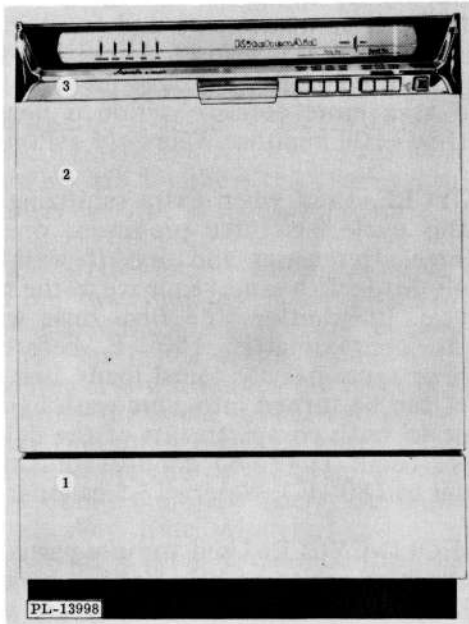

Fig. 11
Lower Front Panel (1, Fig. 11)
Outer Door Panel Assy. (2, Fig. 11)
Control Panel (3, Fig. 11)
All KDC, KDI, KDP & KDS dishwashers have the timers located behind the control panel (3, Fig. 11).
1. Remove lower front panel (1, Fig. 11).